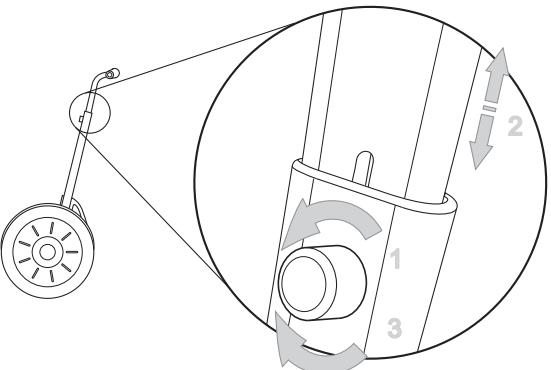

Figure 9: Adjust the Handlebar Height
1. Remove the Height Adjustment knob (see Figure 9, page 21) by turning the knob counterclockwise.